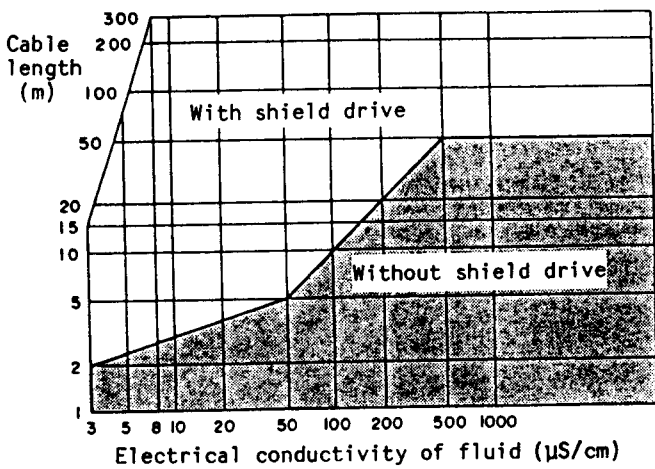

Figure 5.3. Detector Size 2.5 or 5 mm
Model KIX converter is incorporated with a shield drive circuit as a standard feature, which compensates for signal waveform degradation (which may result in measuring accuracy degradation) caused by the use of shielded cables. The shield drive feature need or need not be used depending on the detector size, electrical conductivity of measured fluid, and cable length as shown in Figures 5.3 and 5.4. Note that processing of cable terminals differs depending on whether the shield drive feature is made use of or not.
Whether the shield drive need or need not be employed depends on the detector size, electrical conductivity of measured fluid and cable length as shown in Figures 5.3 and 5.4, where the clear sections are the areas which call for the shield drive and the shaded sections are the areas which do not call for shield drive. (See Table 5.1.)
Note 1: Specify when in the shaded section in Figure 5.3 or 5.4. (Without shield drive)
Note 2: Specify when in the clear section in Figure 5.3 or 5.4. (With shield drive)
- (6) When using cables other than Model KIW dedicated to MagneW, use equivalent ones shown in Table 5.2 in the condition that they meet the requirements of the shaded sections shown in Figure 5-3 and 5-4.